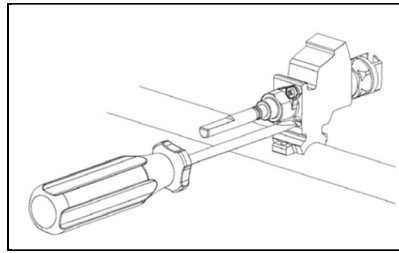

Fig 10A
- Insert a small slotted screwdriver into the hole on the valve body (Fig.10A) and turn the choke screw to the right or left until the burner flame is adjusted to minimum.